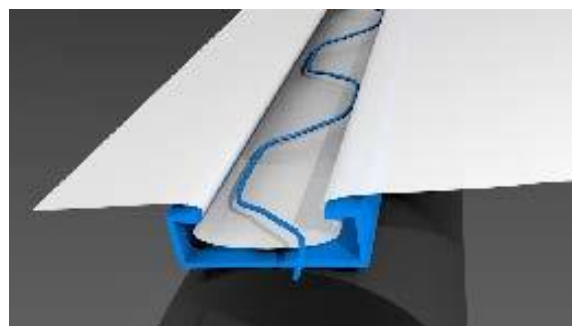

Fig 8.1 Wire Lock / Film Installation
- Lay film over the Wire Lock Channel, and fasten the plastic into the channel by placing the wiggle wire into the channel on top of the plastic (Fig 8.1).